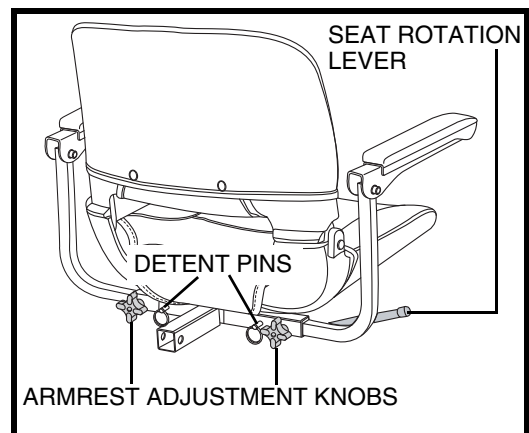

Figure 16. Seat Adjustment
1. Pull up on the seat rotation lever to disengage the seat. **See figure 16.**
1. Loosen the armrest adjustment knobs. **See figure 16.**